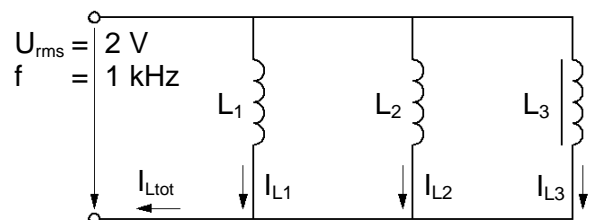

Fig. 14.6.2.1: Measurements on a parallel circuit of coils
- Assemble the circuit in Fig. 14.6.2.1 on the Electronic Circuits Board. Remember the spacing between individual coils (layout notes, see section 14.5.3).
- Check your conclusions for the current changes, by measurement in the circuit of Fig. 14.6.2.1.